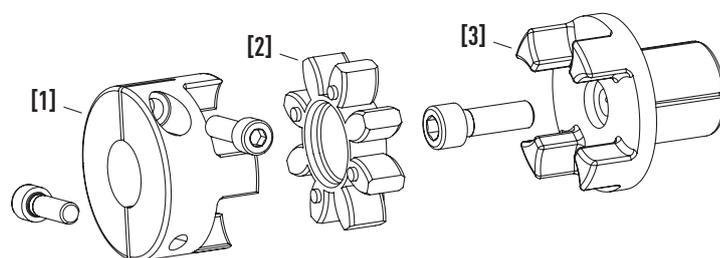

Fig. 6.84 Coupling assembly variant 2: clamping hubs with two clamping screws
- Variant 2 with two clamping screws, see Fig. 6.84